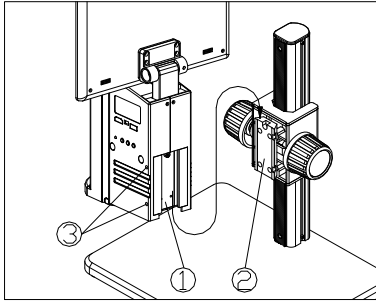

Fig. 1
- 1) Match the dovetail interface ① of the microscope body with the dovetail groove ② of the focus bracket group, and insert it from top to bottom as the direction shown in the figure, fix the screw in the screw groove.
- 2) Tighten the M4 inner hexagon screw on the body group ③ with a M4 inner hexagon spanner (side length 2mm). (See Fig. 1)